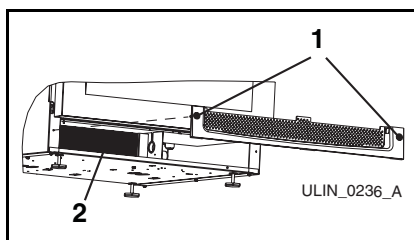

Figure 11
2. Loosen two screws (**Figure 11, 1**) completely.
4. Clean the condenser coil (**Figure 11, 2**) using a soft brush with a "combing" action or vacuum cleaner. Do not touch the condenser coil.